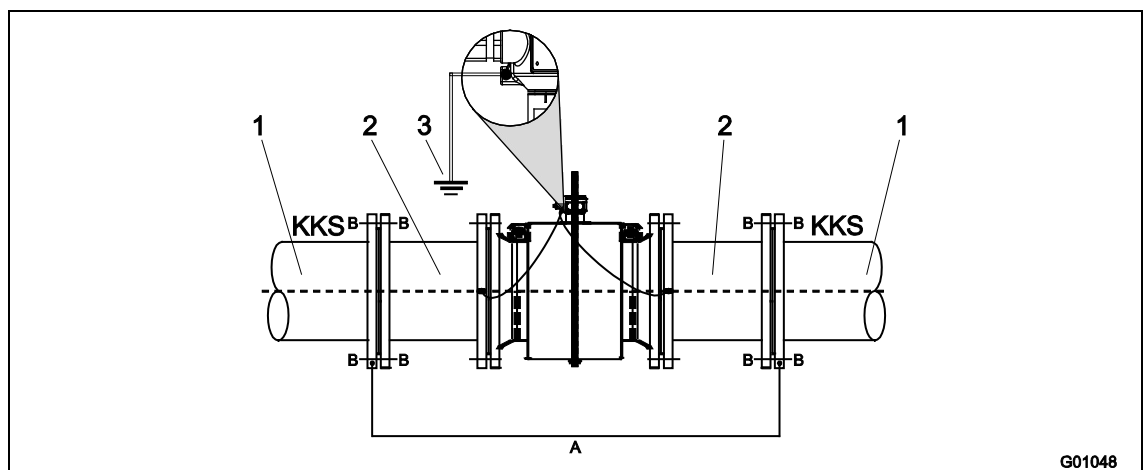

Fig. 23: Flowmeter sensor with functional ground
- If the occurrence of external stray currents is to be expected in pipelines with internal insulation (e.g. in the case of long pipe sections in the vicinity of power supply units), an uninsulated pipe of approx. 1/4 DN of length should be provided upstream and downstream of the flowmeter sensor in order to deviate these currents away from the measuring system (Fig. 23).
The Fig. 23 shows the preferred installation for cathodic corrosion protection systems.